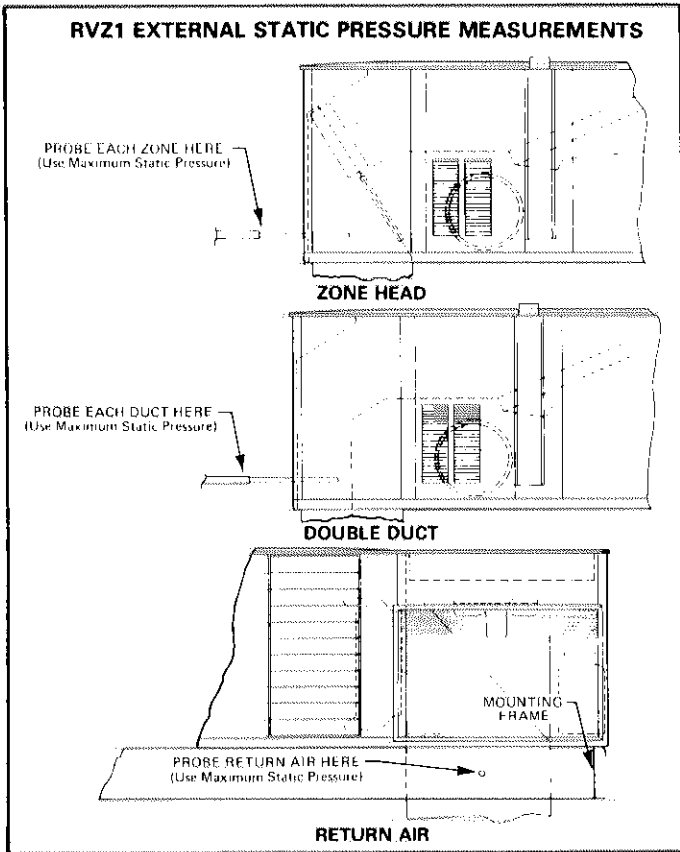

FIGURE 104
- 2 - Take external static pressures at locations specified in Figure104.